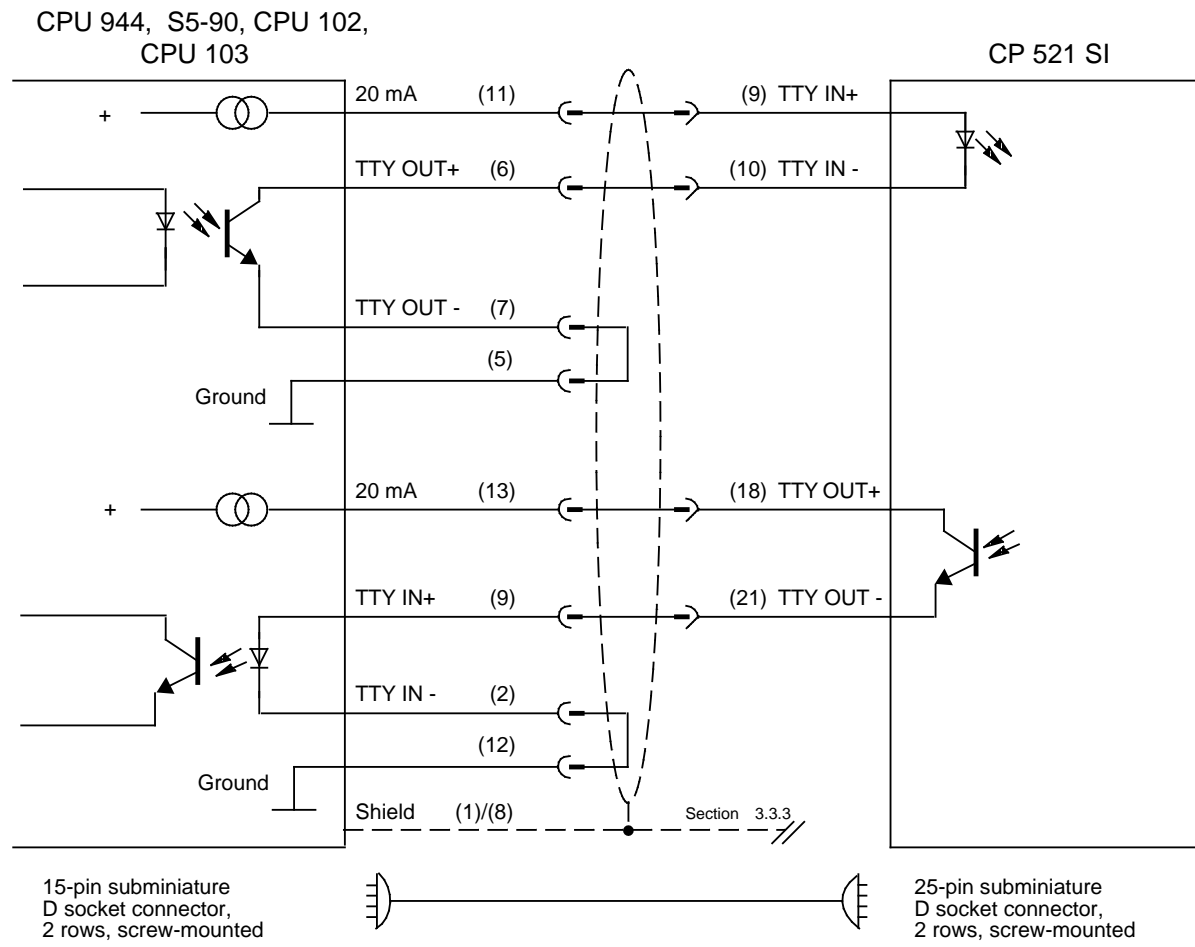

Figure D-4. Terminal Diagram S5-90, CPU 102, CPU 103 and CPU 944 (TTY Active) - CP 521 SI (TTY Passive)
- Connecting cable No. 9AB4173- ____ - ____ Cable for connecting the CP 521 SI to an **S5-90, S5-95, CPU 102, CPU 103, CPU 944, TTY** (Figures D-4 and 8-3),